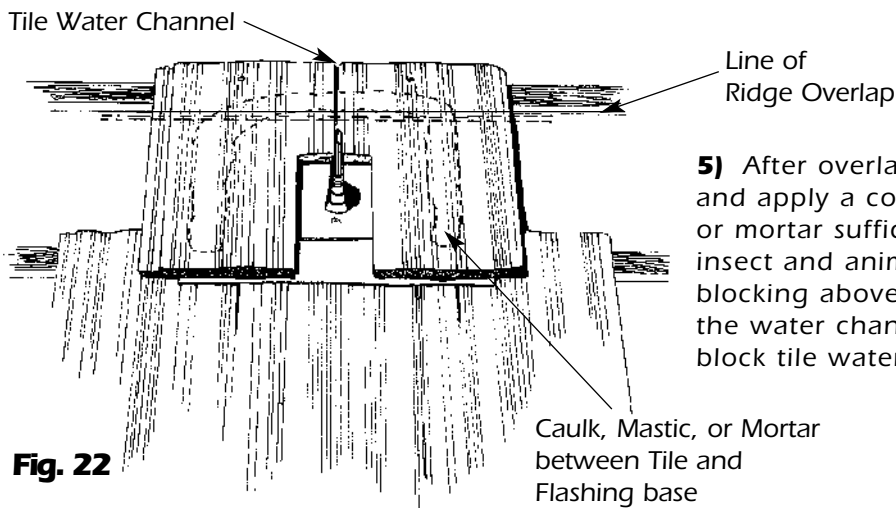
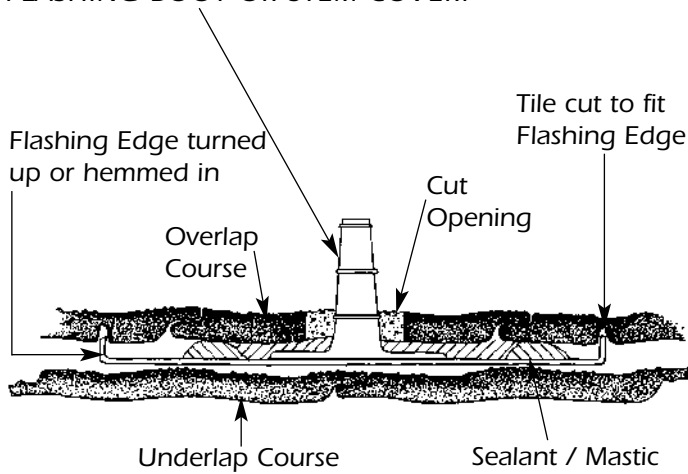

Fig. 22
Fig. 24a
7) Flashing edges may be hemmed or turned up as shown in **Figs. 24a & 24b**. Sealant, caulk, or mortar blocking shown in **Fig. 22** on page 7, may also be used with this detail. Flashing can also be secured to the sheathing using sheet metal clips instead of nails if preferred.